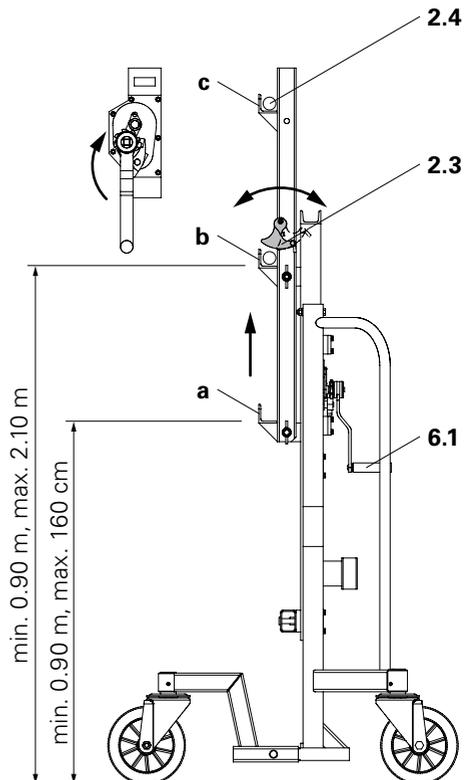

Fig. 8
3. Raise the load by turning the hand crank (6.1) in a clockwise direction. The safety pawls (2.3) are automatically pushed upwards at the rear, fall in a forward direction and thus secure the frame against lifting. (Fig. 8)